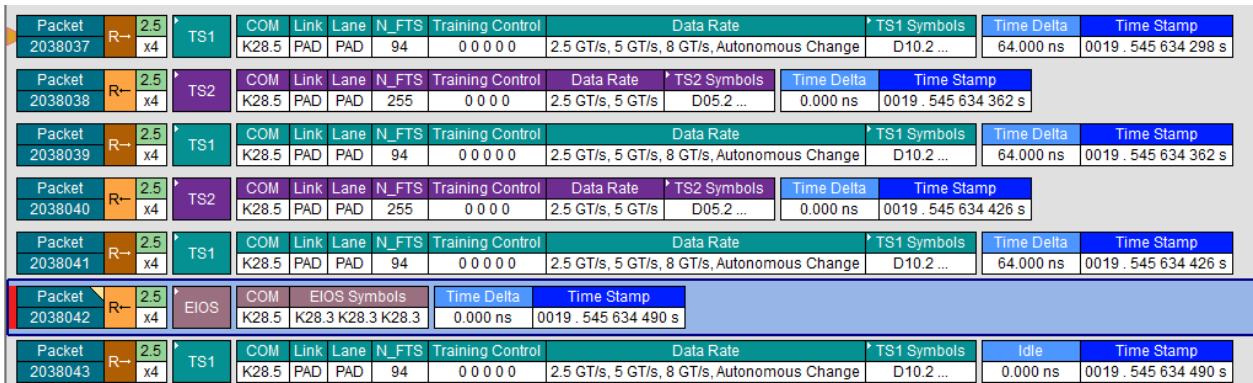

Figure 64 - EP Polling.Config timeout to Detect
- EP in Polling.Config does not receive TS2s and times out to Detect after 48 ms, as shown in Figure 64.